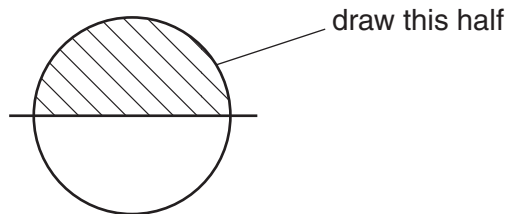

Fig. 2.1
- (ii)** Draw a large plan diagram of the part of the specimen on **M1** indicated by the shaded sector in Fig. 2.1.